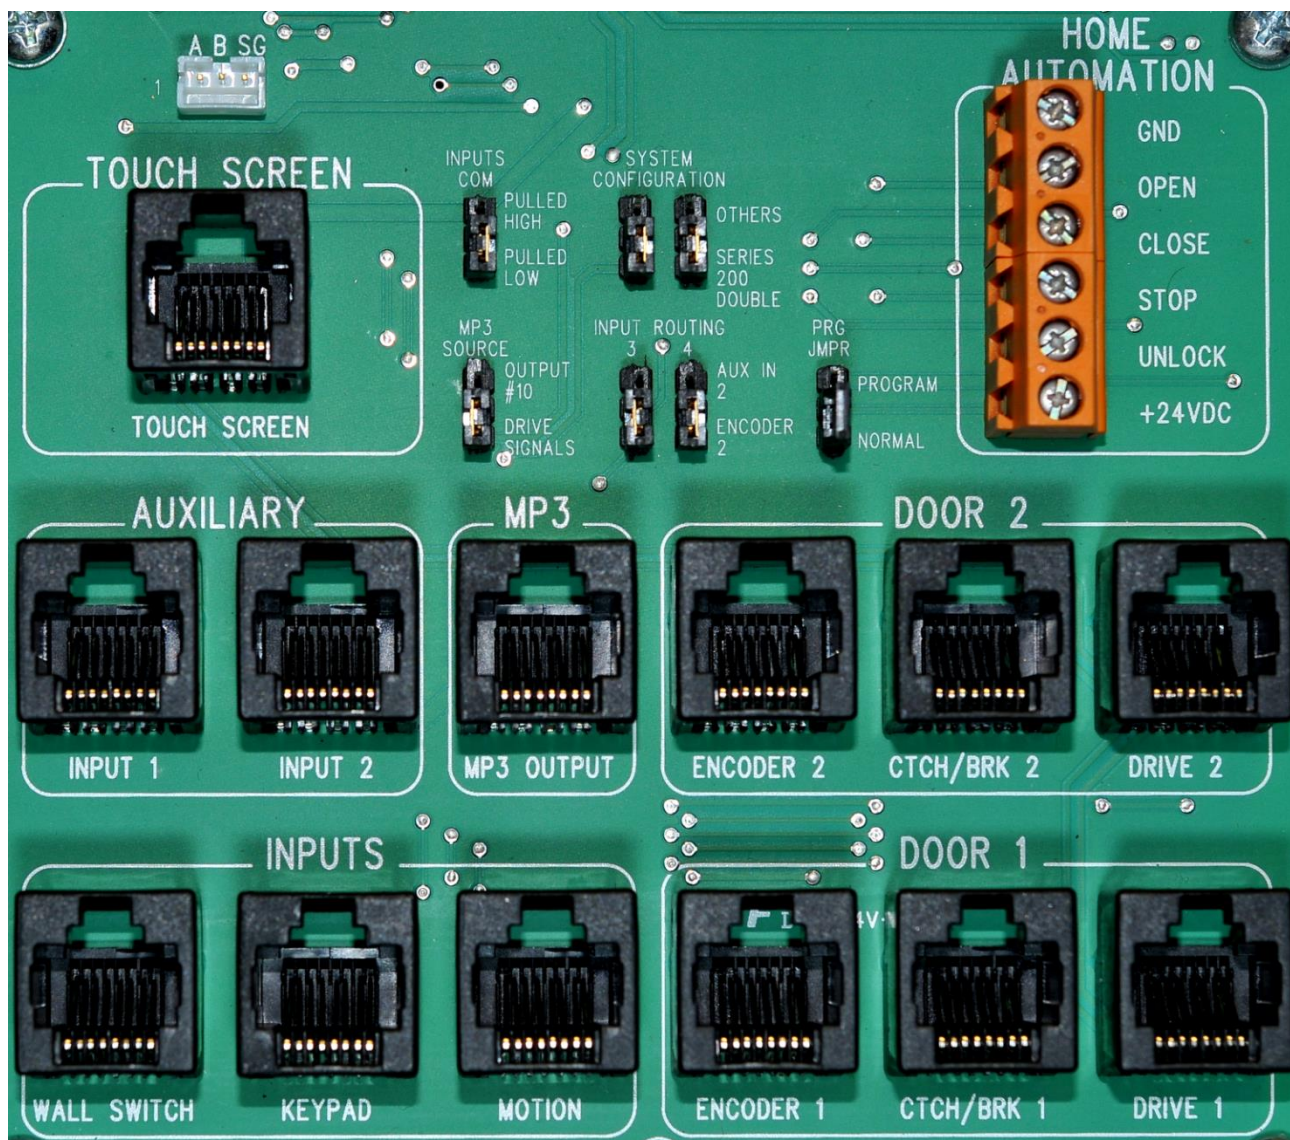

Figure 2 – G1x RJ45 Connectors
- Make sure the wall switch cable is connected to either the “Wall Switch” or “Key Pad” ports inside the controller (**figure 2**)
- Check the main board Wall Switch & Keypad ports for bent pins. (**figure 2**)
- Make sure a motion detector OR motion detector jumper is installed in the motion port. **(figure 2)**